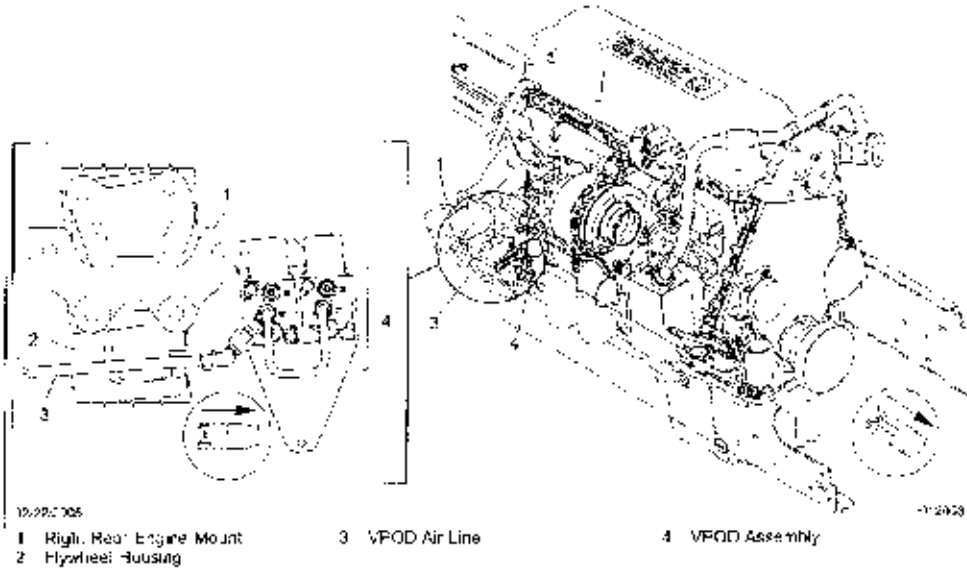

Fig. 2. VPOD and Air Line on the Engine
4. Trace the VPOD air line back to the right side of the engine to verify that it connects to the VPOD. See Fig. 2.